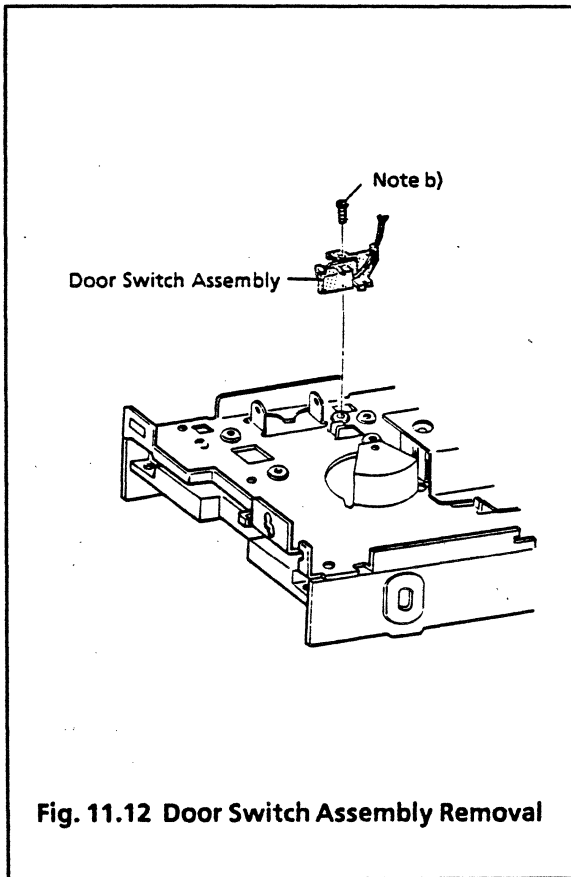

Fig. 11.12 Door Switch Assembly Removal
- (1) Remove the clamp handle and front plate.
- (2) Take out the shield plate-2.
- (3) Disconnect the connectors J7 CON from the printed circuit board.
- (4) Remove the LED Assembly by sliding it aslant from the Cartridge Guide Assembly.
- (5) Reverse the above procedure to reinstall.
11.12 Door Switch Assembly Removal and Installation (See Fig. 11.12)